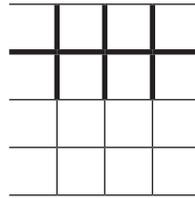

Figure 3
- ◆ (Figure 3) Lay the next row of tiles against the row of divider strips.